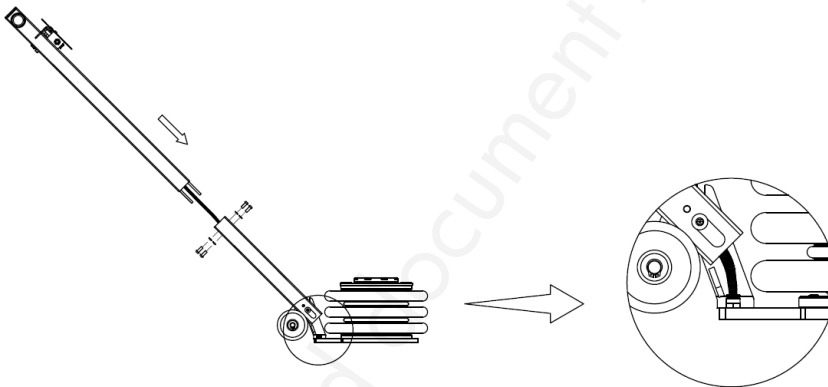

Figure 3
2. (PBK302L) Assemble the handle assembly: insert the part 2 of the handle assembly into the part 1 of it (see figure 3). Pay attention to that the air pipe should be inserted into the part 1 of the handle assembly first and extend from the other end, lock the upper and lower sides with screws, and finally insert the air pipe into the quick connector on the bottom plate (see figure 3).